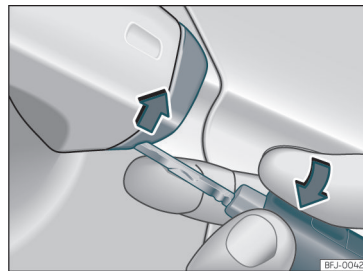

Fig. 74 Driver door handle: lever the cover off
- Insert the key shaft into the lower opening in the cover on the driver door handle >>> **Fig. 74** then remove the cover upwards.